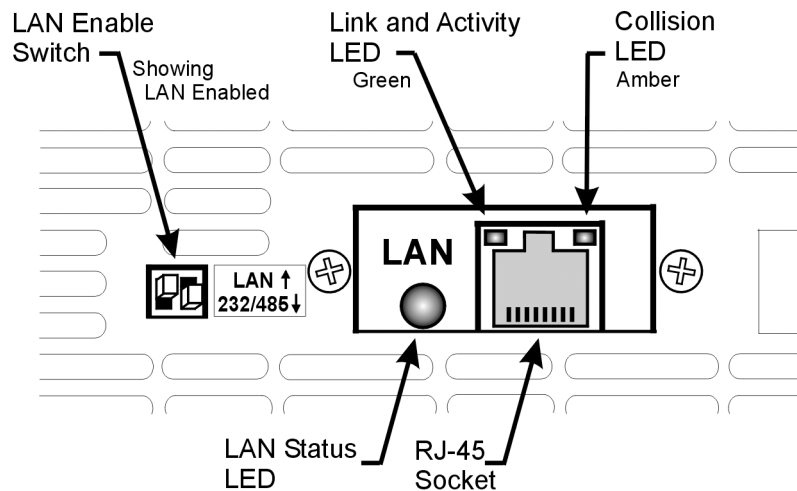

Figure 2. Rear Panel LAN Features
- Figure 2. Rear Panel LAN Features 6